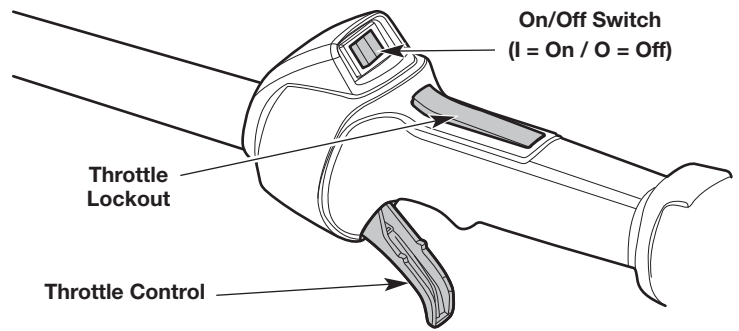
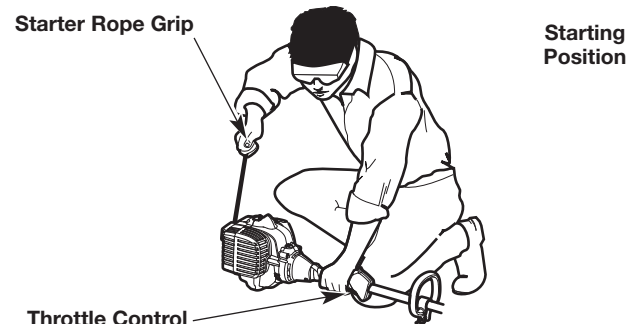

Fig. 17
Fig. 19
**WARNING:** Avoid accidentally starting the unit. To avoid serious injury, the operator and the unit must be in a stable position when pulling the starter rope (Fig. 19).
**NOTE:** There is no need to turn the unit on. The On/Off switch is in the **On (I)** position at all times (Fig. 17).
4. Crouch in the starting position (Fig. 19).
5. Press and hold the throttle lockout. Squeeze and hold the throttle control (Fig. 17). Pull the starter rope with a controlled and steady motion **5 times** to start the engine (Fig. 19).
2. Press and hold the On/Off switch in the **Off (O)** position until the engine comes to a complete stop (Fig. 17).
- NOTE:** There is no need to turn the unit on. The On/Off switch is in the **On (I)** position at all times (Fig. 17).
6. Press and hold the throttle lockout. Squeeze and hold the throttle control (Fig. 17). Run the Speed Start™ accessory in intervals no longer than 2 seconds each until the unit starts.